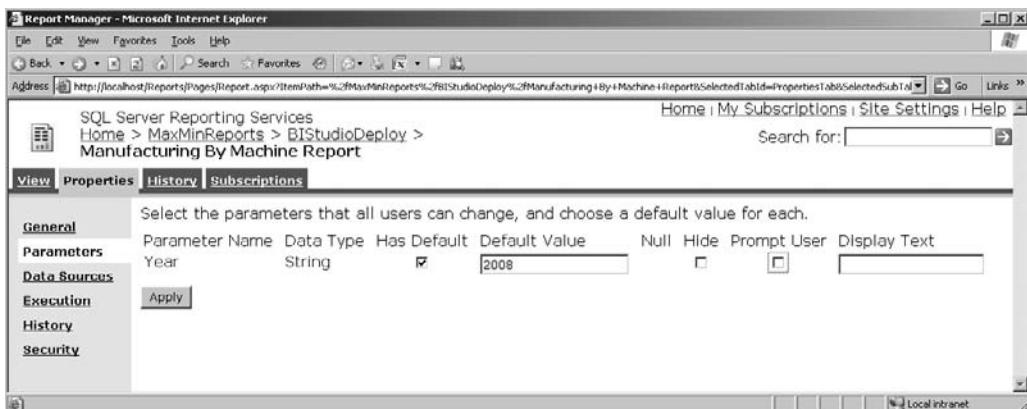

Figure 18-10 The Parameter management page with a read-only parameter
5. Uncheck the Prompt User check box for the Year parameter. The Year parameter is now a read-only parameter. The Parameter management page appears as shown in Figure 18-10.